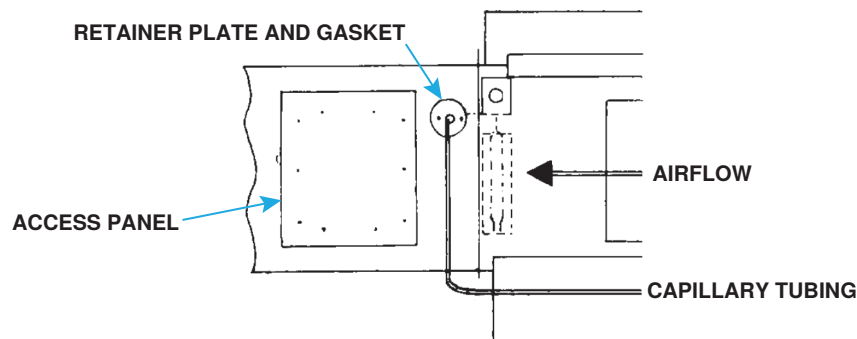

Figure 10. Capillary Sensor Installation
- (2) At selected ductwork location, mark and cut 1/2-inch hole that will be sealed with gasket and retainer plate (see Figure 10). Push sensor and capillary tubing through hole.
- (3) Remove ductwork access panel (see Figure 10) and install sensor in sensor holder so that it senses air temperature as it flows through holes in holder.
- (4) Position sensor holder and junction box assembly inside ductwork so that sensor will be shielded from direct airflow and secure junction box to ductwork using four field-supplied #6 sheet metal screws.
- (5) Slide gasket (cut slit) and retainer plate over capillary tubing. With gasket next to ductwork, install hole retaining plate and secure using field-supplied sheet metal screws.
- (6) Close ductwork access panel.